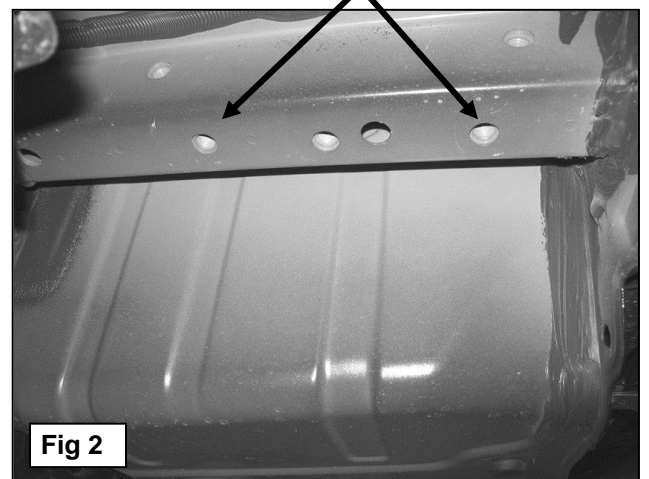

Fig 2
- Locate the factory threaded holes in the bottom of the frame rail channel. Position the Frame Bracket up to the frame channel and line it up with the two outside threaded holes, **(Figure 2)**.